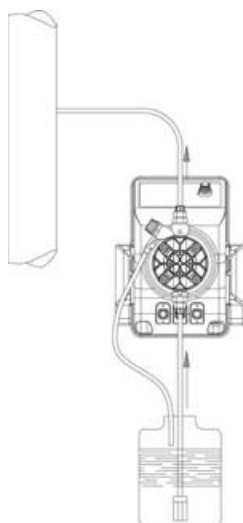
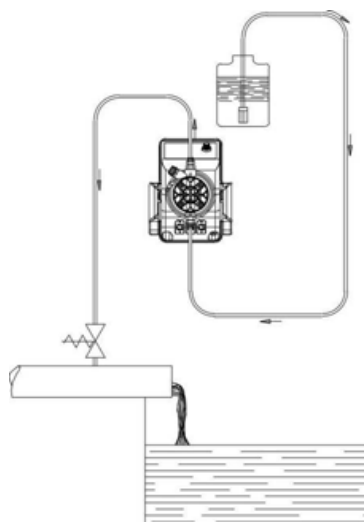

Fig. 5
Fig. 6
c. - Locate the pump as shown in fig. 5 bearing in mind that it may be installed either below or above the level of the liquid to be dosed, though the level difference should not exceed 2 meters. When the process plant in which the pump is installed is operating at atmospheric pressure (no back pressure) and the chemical tank is situated above the plant (Fig. 6), the condition of the injection valve should be checked at regular intervals, because excessive wear and tear could cause additive to drip into the plant even when the pump is shut down. If the problem persists, install a properly calibrated counter-pressure valve (C) between injection point and the valve. In the case of liquids that generate aggressive vapours, do not install the pump above the storage tank unless the latter is hermetically sealed.